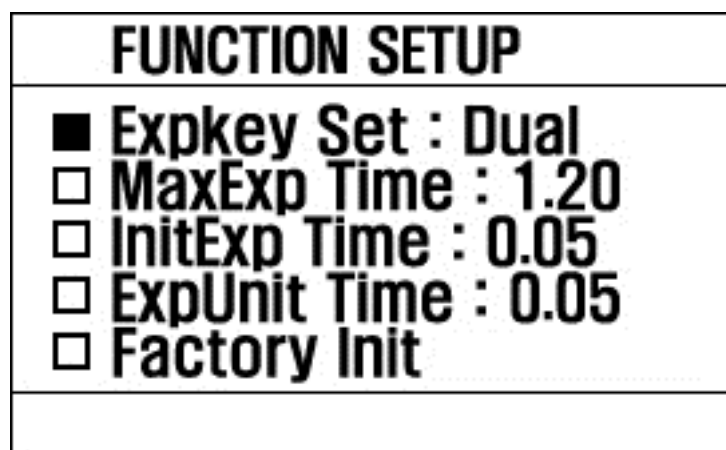

Figure 7.6 Function setup screen
- After turning on the device, press the power button and the ▼ button at the same time for a second to reach the function setup display (see Figure 7.6).